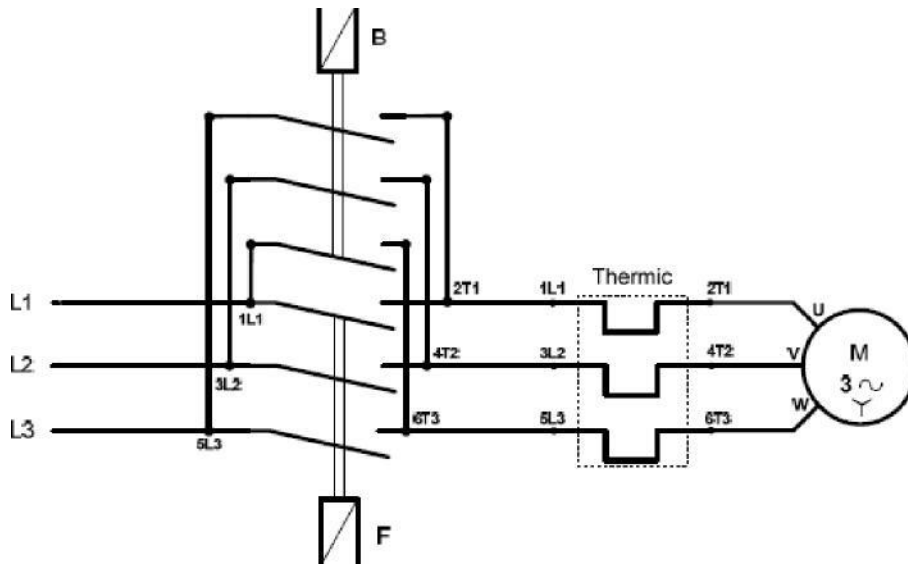

Figure 2: Power circuit to change the rotation direction of asynchronous motor.
3. Make the connections with 4 mm test cables according to power circuit in the figure 2.